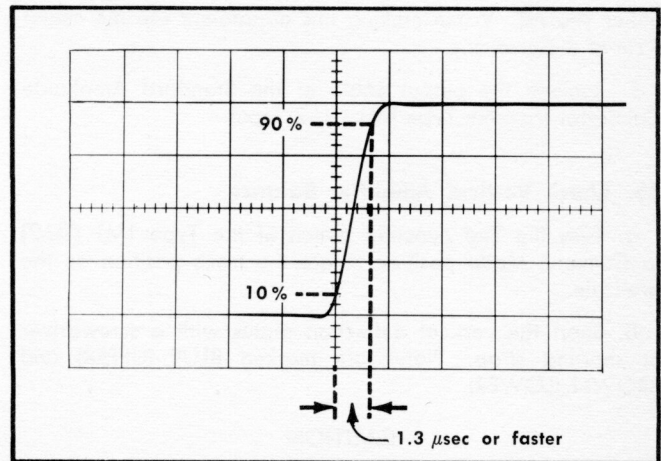

Fig. 6-12. Measuring the risetime of a normal waveform. Sweep rate is 2 μ Sec/cm.
(1) Set the Differential Amplifier MILLIVOLTS/CM switch to 1000 and the Input Selector switch to A DC.
(2) Set the Type 533/533A AMPLITUDE CALIBRATOR switch to 2 volts.
(3) Set the Test oscilloscope Time/cm switch to .1 mSEC.
(4) Set the Test oscilloscope Stability control to Preset and adjust the Triggering Level control for a stable display.
(5) Adjust the Test oscilloscope Variable Time/cm control to place one complete cycle of the square wave within the center 8 centimeters of the graticule area.
(6) Check for symmetry. The 1st half cycle of the square wave must be within $\pm 10\%$ of the time of the 2nd half cycle.
(7) Return the Test oscilloscope Time/cm Variable to the Calibrated position.
(8) Set the Test Oscilloscope Time/cm switch to 1 μ SEC and adjust the Triggering Level so the leading edge of the pulse is displayed.
(9) Adjust the Horizontal Position control so the leading edge of the waveform is on the center vertical graticule line.
(10) Measure the risetime (10 to 90% amplitude points) (Fig. 6-12). Risetime is typically 2 μ SEC or less. This is not a specification, but an indication of operating performance.
(11) Remove the cables from the Type 533/533A to the Differential Amplifier and turn the AMPLITUDE CALIBRATOR to OFF.